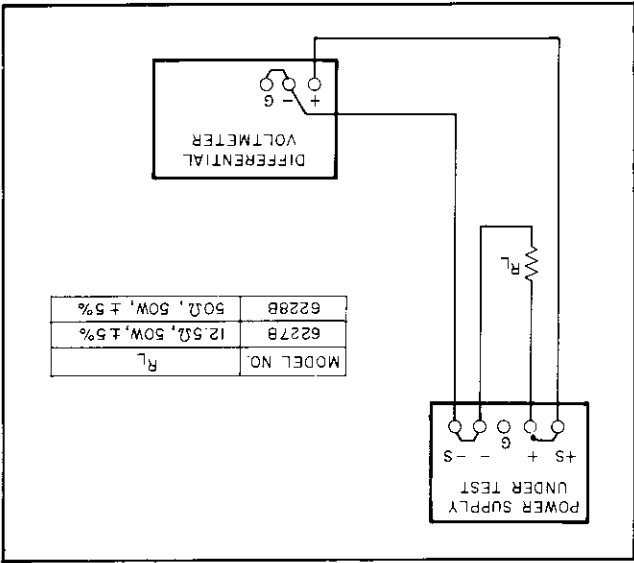

Figure 5-2. Constant Voltage Load Regulation Test Setup
- Connect load resistor (R_L) indicated in Figure 5-2 across output terminals of supply.
- Connect test setup shown in Figure 5-2.